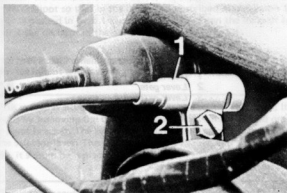

Fig. 6.15 Kickdown cable adjusting sleeve (1) and clamp bolt (2) (Sec. 16)
3 Referring to Fig. 6.15 release the cable clamp pinch bolt (2) and then pull sleeve (1) through clamp until the cable nipple can be felt against the sleeve in the accelerator shaft bracket.